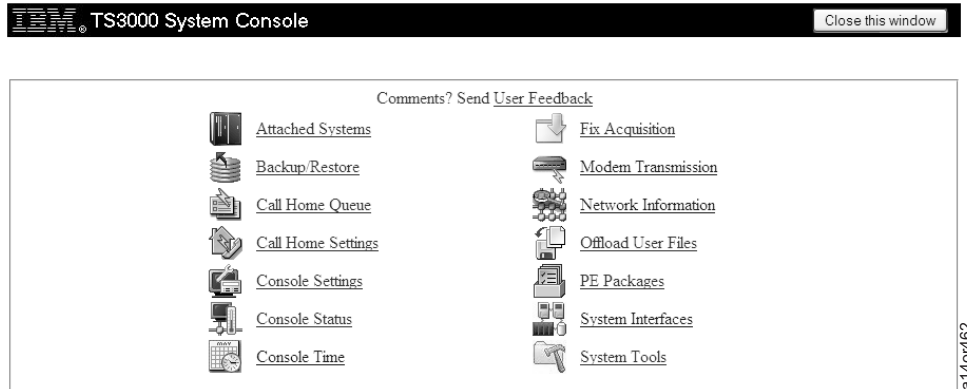

Figure 249. Main Configuration Screen
3. Type **service** in the Username field, **service** in the Password field, then click **OK** to start the Console Configuration application. You see the Main Configuration screen shown in Figure 249 on page 214.